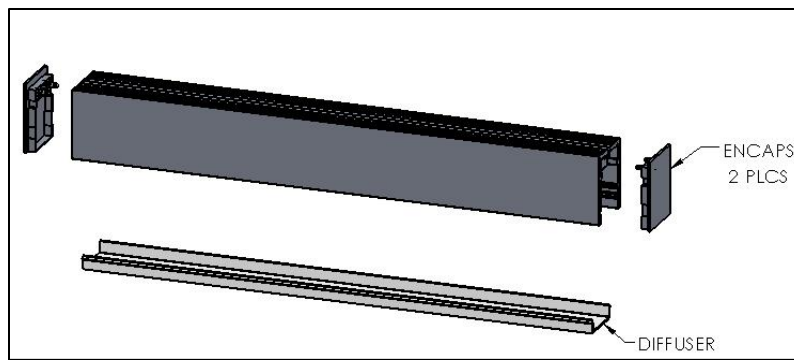

FIG. 12 –COMPLETE FIXTURE INSTALLATION
7. Reattach DIFFUSER and END CAP. as shown FIG. 12.